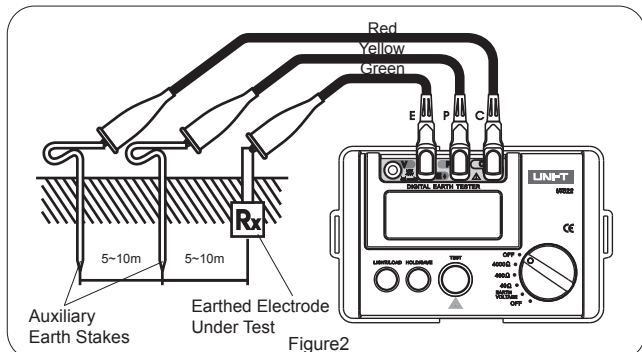

Figure2
- Insert P and C earth stakes deep into the soil, make sure the earth stakes and tested object are in a straight line and at a distance of 5m~10m from each other. See Figure 2 for the wire connections